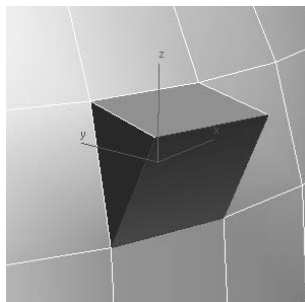

Figure 4.38
4. Once you select the hinge, the polygon will hinge out, rotating about that selected edge however many degrees are cited in the Angle parameter. You can use the spinner to select or you can enter the desired angle value for the hinge. The model will interactively hinge the polygon as you set the Angle value. Figure 4.38 shows a small hinge. Notice the hinge is flat, as it only has a Segments value of 1.